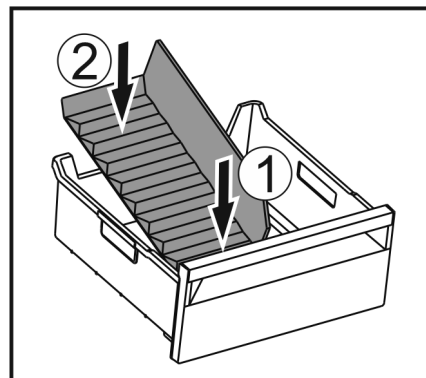

Fig. 232
- ▶ Insert the front part of the ice compartment divider. Fig. 232 (1)
- ▶ Lower the rear part of the ice compartment divider to the drawer bottom. Fig. 232 (2)